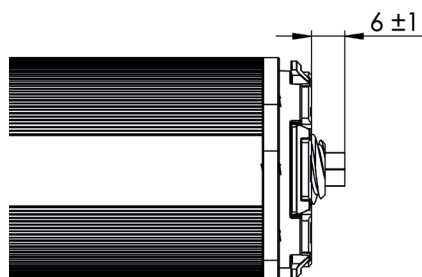

Fig. 5: Adjusting the Spindle End
1. Turn the Spindle so that it protrudes 6 mm from the end of the Actuator (Fig. 5)